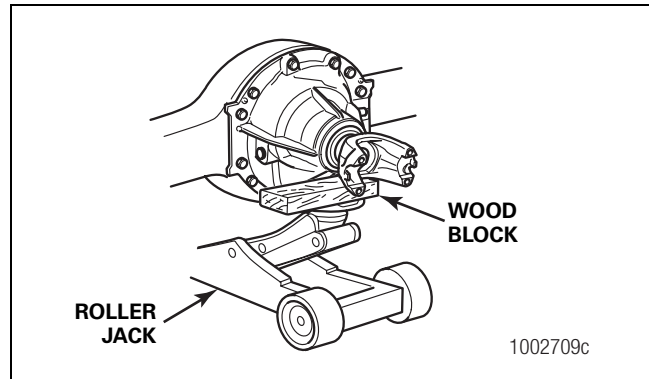

Figure 3.6
- Place a hydraulic roller jack under the differential carrier to support the assembly. Figure 3.6.